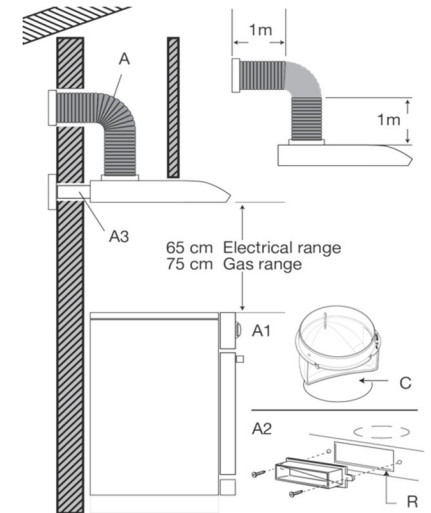

Figure 5
2. One end of the duct should be connected to the hood, and the other end to the outside of the range by making a hole in the wall (Fig.5).